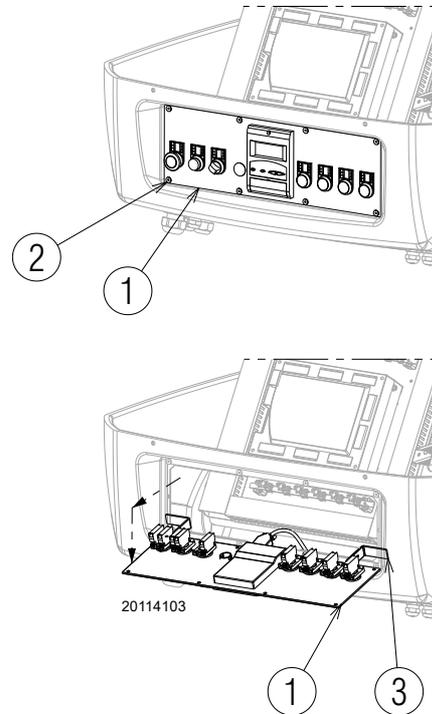

Fig. 43
- extract the control panel 1) and turn it 90°, hooking it with the brackets 3) in the profile of the electrical panel as shown in Fig. 43;